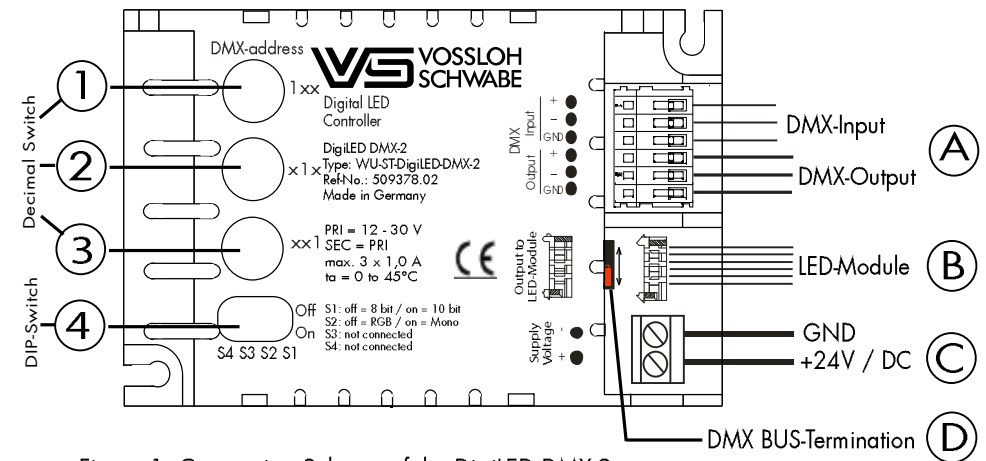

Figure 1: Connection Scheme of the DigiLED DMX-2
Figure 1 shows the connection scheme of the DigiLED DMX-2. The connections of the module are one 2-pole terminal screw (C) for the supply voltage, a 6-pole plug-in terminal for the DMX input and output (A) as well as one system plug (B) as output to the LED modules. The number of controllable modules depends on the power consumption of the lighting modules where a total of max. 1.0 A must not be exceeded per channel. Further DMX devices (max. 32 DMX devices) can be connected in cascade by using an active output (DMX output).
The transmission line must be terminated with a resistor at the last receiver of the DMX512 transmission track. This resistor is already integrated and can be switched on and off by using a slide switch (D) at the device. The switch is set to "on" in Figure 1.